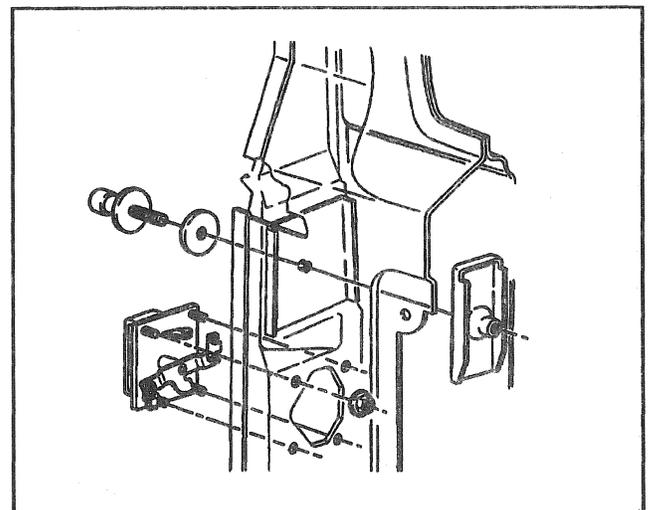

Figure 91—Rear Cargo Door Lock Striker and Latch Control Handle (Mounted to Left Door)
6. Latch control handle nuts (Figure 91).
7. Latch control handle (Figure 91).
1. Latch control handle (Figure 91).
2. Latch control handle nuts (Figure 91).
Remove or Disconnect (Figure 91)
Install or Connect (Figure 91)